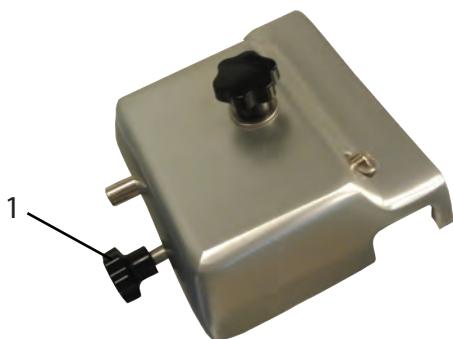

Figure 10
- 5 Loosen the sharpener locking pin (Figure 10 [1]) then lift and rotate the sharpener 180°. Lower the sharpener so that the blade is between the 2 stones and resecure with the sharpener locking pin.